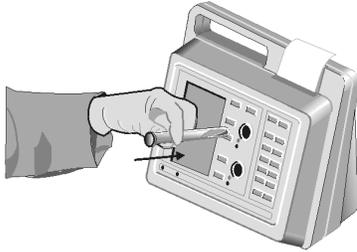

Figure 9. Inserting the Test Tube Into the Well
3. Insert the test tube in the well (Figure 9 below). Quickly rotate the tube clockwise one revolution. The screen will briefly display DETECTING MAGNET PLEASE WAIT.